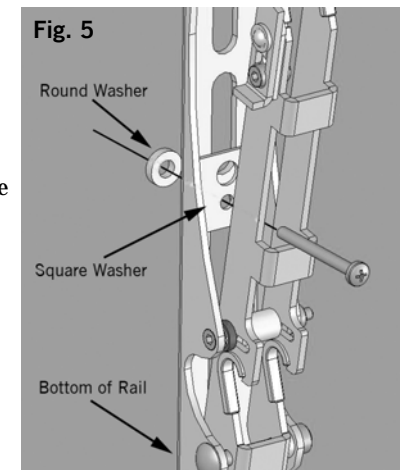

Fig. 5
Note: If you wish your display to reach a tilt angle of 0° to -1°, place a Round Washer (N) on the lower mounting screw between the mounting rail and the display. (Fig. 5)